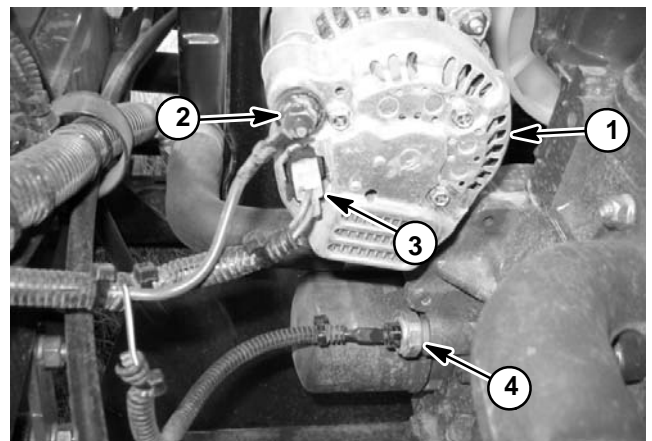

Figure 13
F. Remove cable from alternator stud. Disconnect wire harness connector from alternator (Fig. 13).
G. Disconnect brown/white wire from oil pressure switch (Fig. 13).